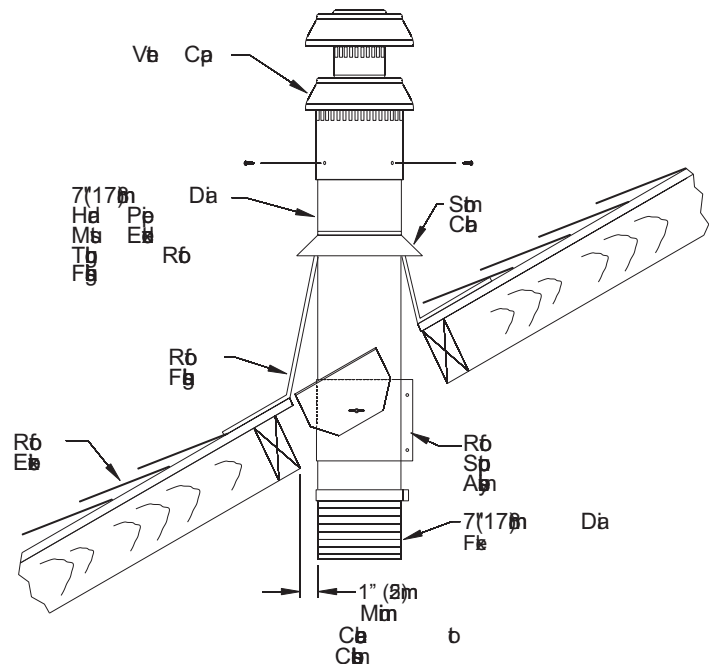

Figure 34
19. Once the lower connections are made and the flex pipe is secured with support bands as required (3 feet minimum between supports) then the roof flashing can be installed. **See Figure 34.**
22. To complete the vent installation, install the vent termination cap to the top of the hard vent pipe assembly. Mate up the flue and outer telescopes with the hard pipe assembly, then secure by installing a minimum of two (2) sheet metal screws into the overlapped flanges of the cap and pipe.